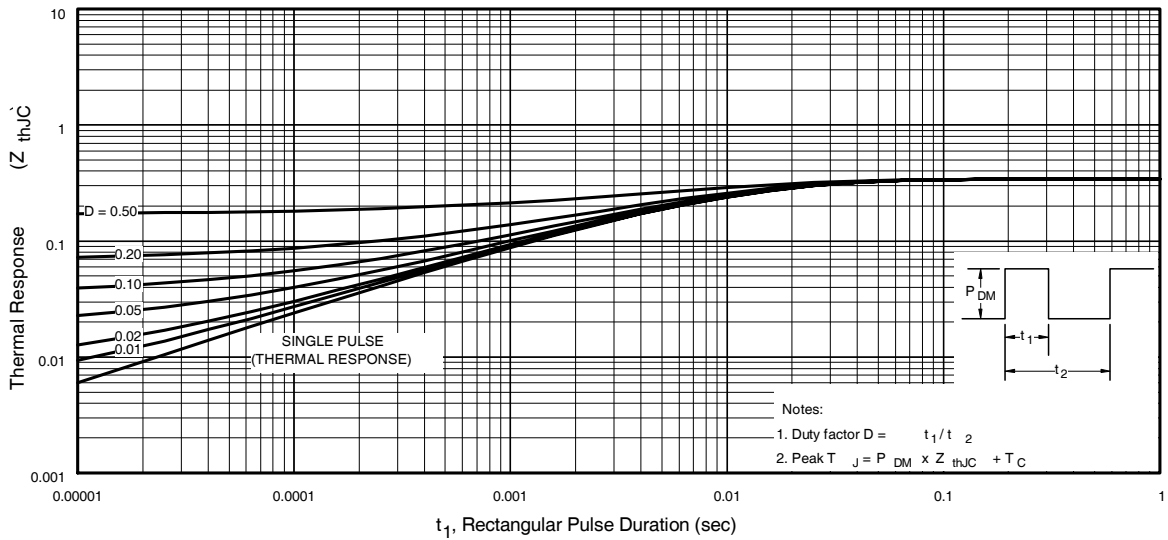

Fig 12. Maximum Effective Transient Thermal Impedance, Junction-to-Case
- ② Starting $T_J = 25^\circ\text{C}, L = 1.5mH, R_G = 25\Omega, I_{AS} = 23A, dv/dt = 14V/ns$. (See Figure 12).
- ③ $I_{SD} \leq 23A, di/dt \leq 430A/\mu s, V_{DD} \leq V_{(BR)DSS}, T_J \leq 150^\circ\text{C}$.
④ Pulse width $\leq 300\mu s$; duty cycle $\leq 2\%$.
⑤ $C_{oss \text{ eff.}}$ is a fixed capacitance that gives the same charging time as C_{oss} while V_{DS} is rising from 0 to 80% V_{DSS} .